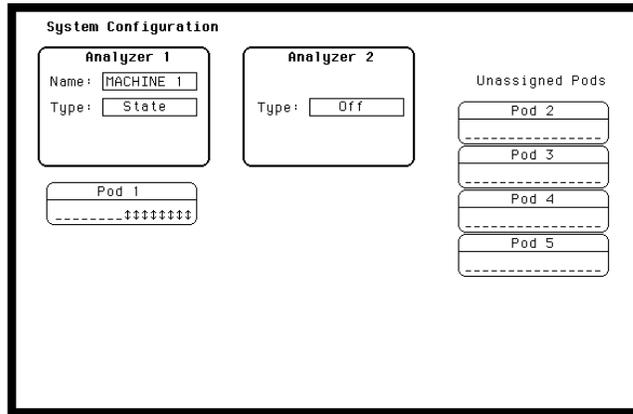

Figure 3-4. System Configuration for Data Test 1
3. Assign the pod under test to **Analyzer 1** in **System Configuration** as in previous test figure 3-4.